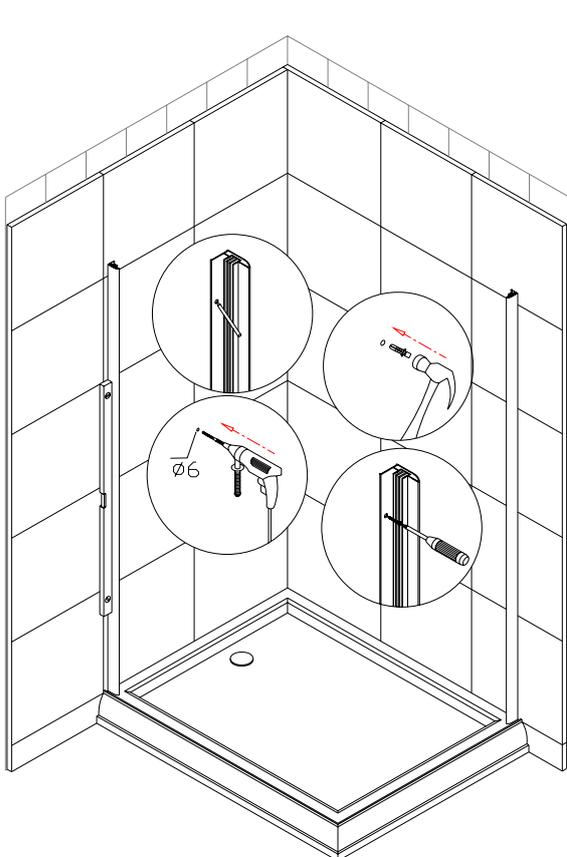

Fig 1
1. Start installation from the shorter wall. Locate the **L-shape wall profile (1)** from the package then place it vertically above the tray 31" from the corner to the external edge of the profile. Using a level adjust the L-shaped profile upright, then use predrilled into aluminum profile holes to put on marks for drilling. Now drill the holes and insert the **wall anchors (10)** into the hole. Using 4X30 round head self-tapping screw (13) to attach the Wall profile to wall (fig 1).